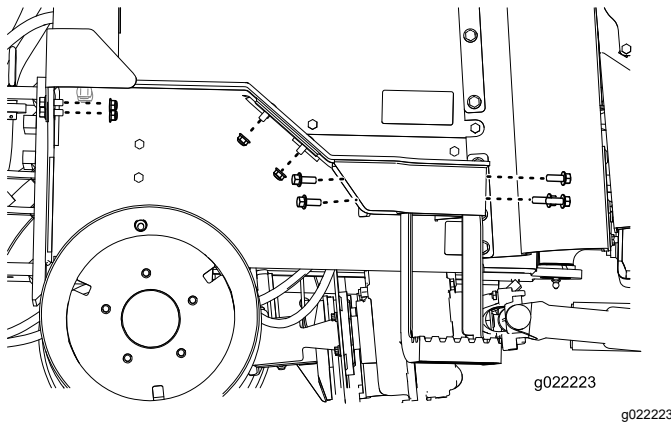

Figure 14
3. Remove the step extension from the machine (Figure 14).